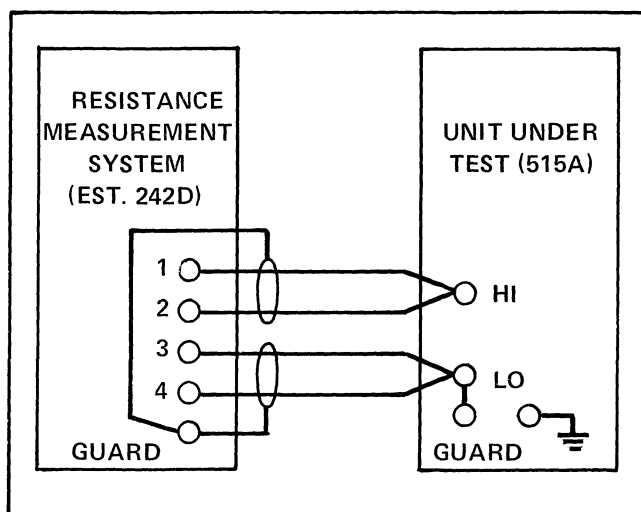

Figure 4-8. RESISTANCE CONNECTIONS
- a. Connect the equipment as shown in Figure 4-8.